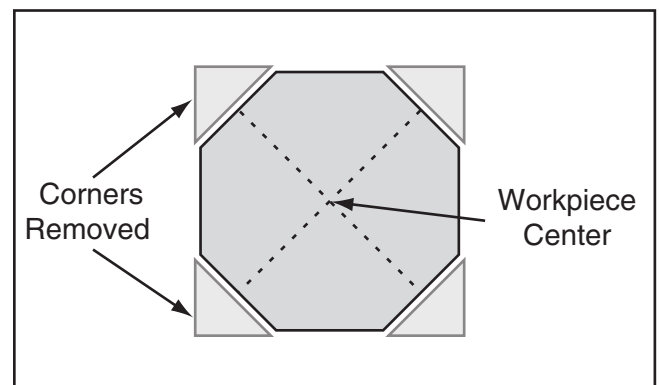

Figure 23. Corners of workpiece removed.
5. If your workpiece is over 2" x 2", cut corners off workpiece lengthwise to make turning safer and easier when roughing out workpiece (see **Figure 23**).